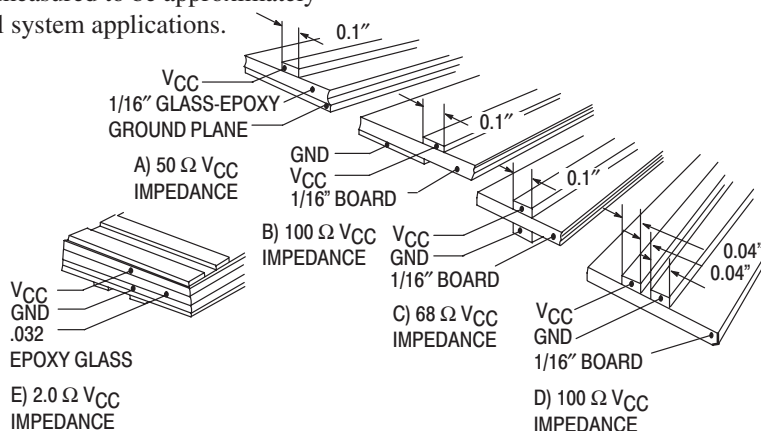

Figure 1–45. Power Distribution Impedances
The three waveforms shown in Figure 1–44b, c and d, depict how ground bounce is generated. The first waveform shows the voltage (V) across the load as it is switched from a logic HIGH to a logic LOW. The output slew rate is dependent upon the characteristics of the output transistor, the inductors L1 and L3, and C_L , the load capacitance. The second waveform shows the current that is generated as the capacitor discharges [$I = C_L \cdot dV/dt$]. The third waveform shows the voltage that is induced across the inductance in the ground lead due to the changing currents [$V_{gb} = -L \cdot (dI/dt)$].